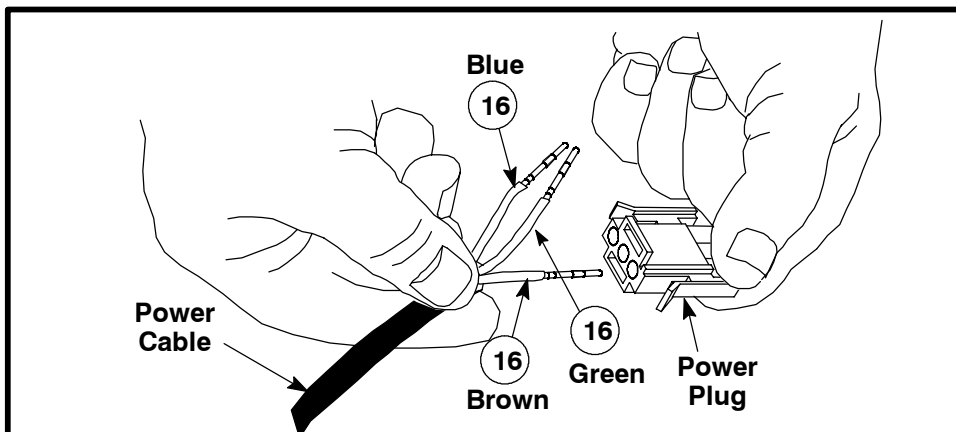

Figure 4-15. Power Cord Plug Keyway
6. Visually examine the Power Cord Plug. Look for a small, flat key running along the top of the plug. See Figure 4-15.